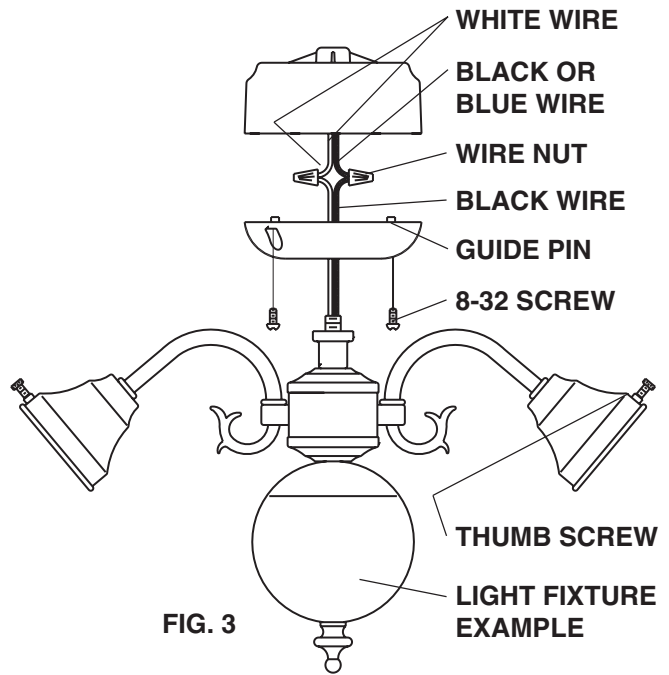

FIG. 3
4. Guide the two wires from the light fixture through the center plug-hole in cover and then thread the light fixture into the center hole. Hand tighten firmly. See FIG. 3